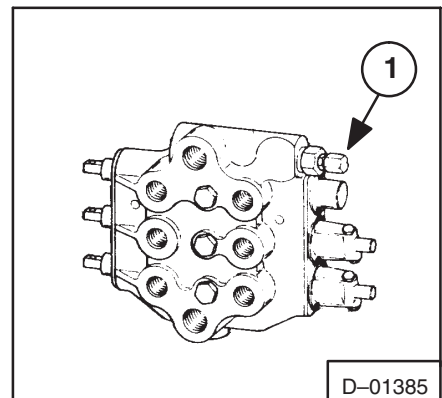

Fig. 2-5 Location Of Relief Valve
5. Loosen the relief valve (Fig. 2-5, Item 1).